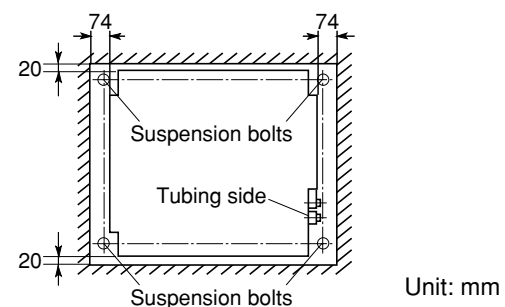

Fig. 3-7
- (3) The distance between the unit and the opening of the ceiling and the distance between the bottom surface of the ceiling and the bottom surface of the flange of the unit should follow the dimensions given in Figs. 3-7 and 3-8.